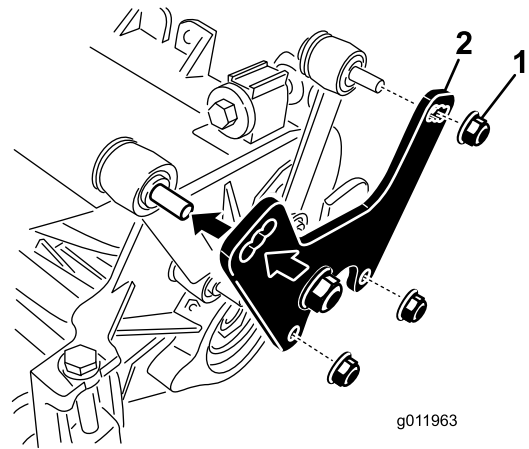

Figure 10
1. Remove the nuts and washers securing the lift links to the cutting unit side plate and carrier frame (Figure 10).